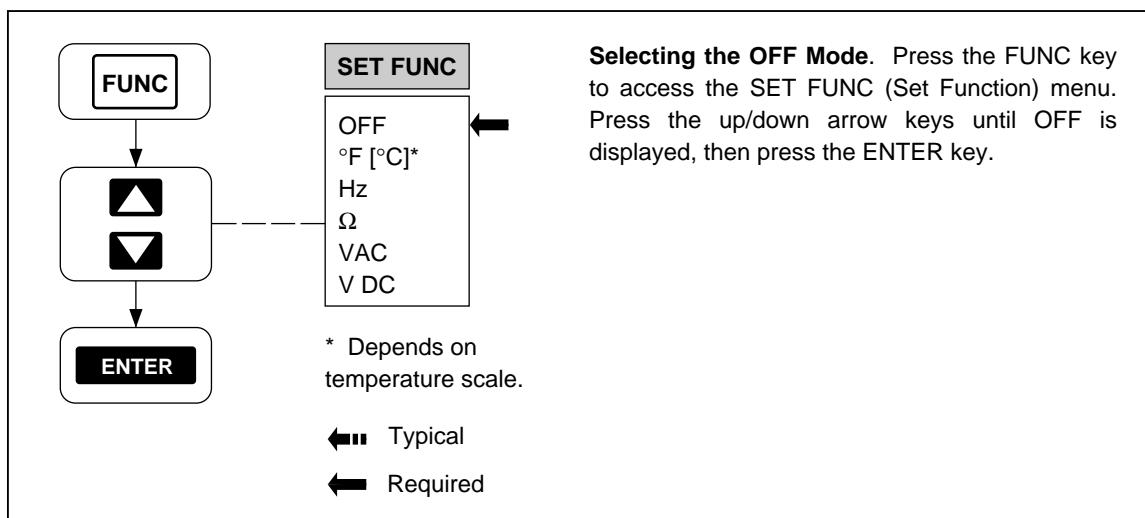

Figure 2-10. Configuring a Channel Off
- Configuring a Channel Off (Figure 2-10)
Perform the procedure in Figure 2-10 to configure a channel for off (no measurement). In preparation, the instrument must be in the inactive mode (not scanning or monitoring) and the desired channel must be selected (see Figure 2-3). To exit at any time (changes not saved), press the **CANCL** key. When a channel is OFF, it cannot be scanned or monitored. When a channel function is changed, alarm limits and scaling ($M_x + B$) for that channel are changed to their default conditions.